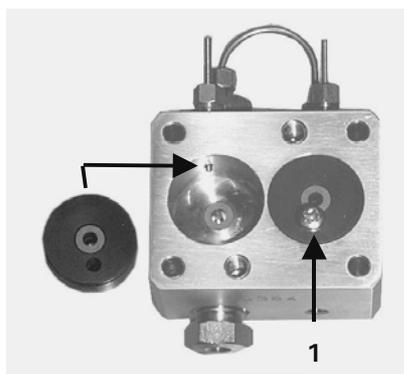

FIGURE 4-17. The Low Pressure Seal Holder
- g) Screw in a M3 screw into the seal holder and use a small screwdriver to remove the low pressure seal holder (item 1, FIGURE 4-17).
- i) Place a new high pressure seal on the piston and use it to properly align the seal (FIGURE 4-17). The spring side should be placed as indicated in FIGURE 4-18.